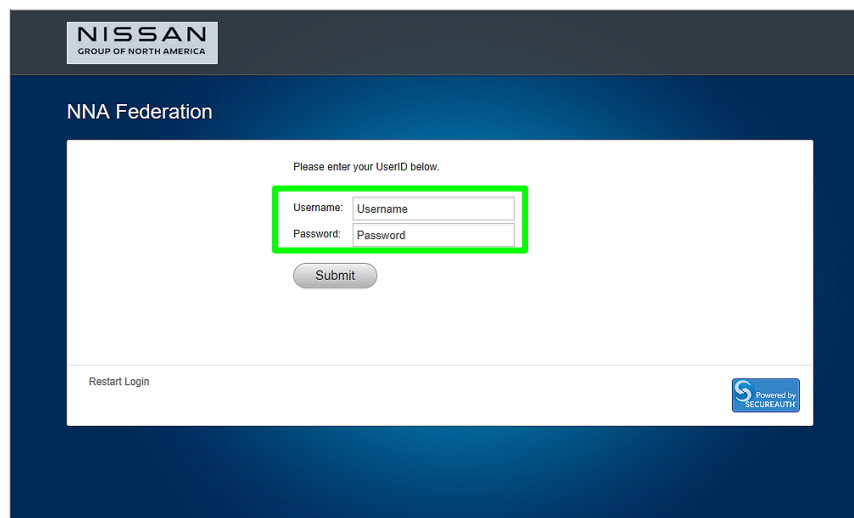

Figure 12
18. Login using your NNAnet credentials (Figure 12).